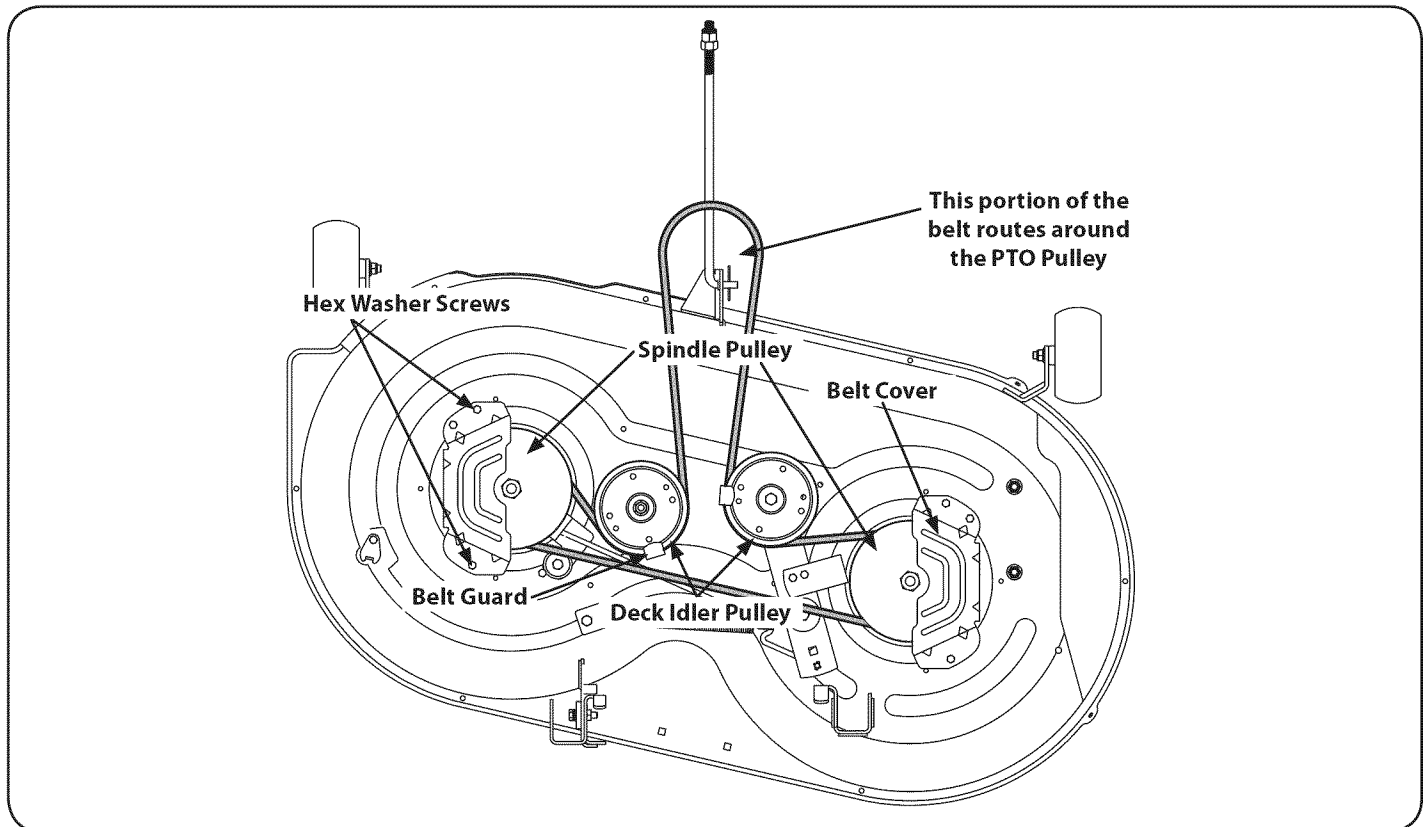

Figure 24
1. Remove the belt covers from the spindle pulleys by removing the hex screws that fasten the covers to the deck. See Figure 24.
3. Carefully remove the deck belt from around the two spindle pulleys and the two deck idler pulleys. See Figure 24.
4. To place the new belt, begin by routing the belt around the two outer spindle pulleys as shown in Figure 24.
5. Then route the belt around the two deck idler pulleys as shown in Figure 24.
8. Re-install the deck, making sure the belt remains routed around the pulleys as instructed. The complete belt routing is shown in Figure 24.